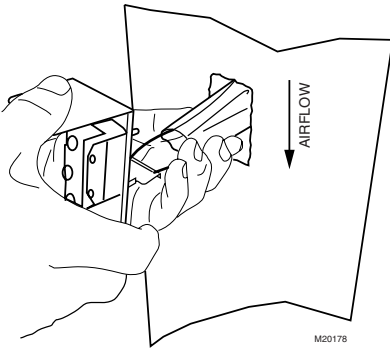

Fig. 10. Inserting sail switch in direction of airflow.
5. Press together the sides of the wire loop. Insert the sail into the duct. (When in the Off position, the sail should point into the direction of airflow as shown in Fig. 10.)